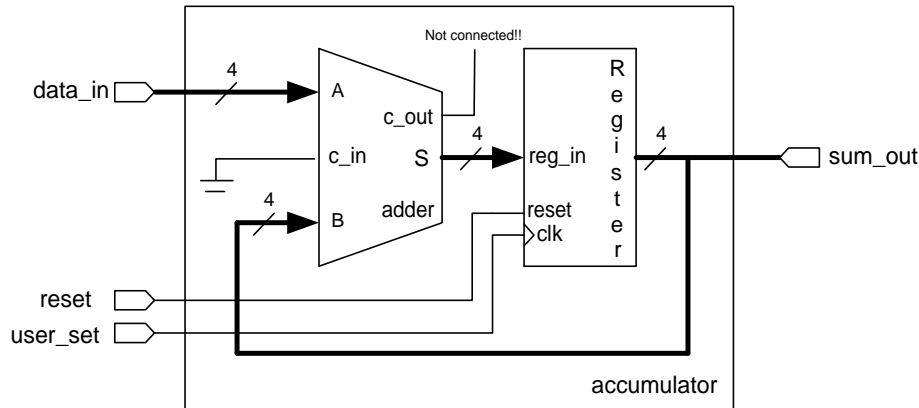

Figure 16; Accumulator block diagram.
2. Analyzing four_bit_reg.vhd description; Open the file four_bit_reg.vhd by double clicking on it under **Sources in Project** window. This file describes the “register” block shown in figure 16. When the input “reset” is high, the output of the block is “0000”. If a raising edge is detected in the input signal “clk”, the block will read its input “reg_in” and write it down on its output signal “sum_out”.
3. Creating a new source file; Following the same procedure as in step 1,2 and 3, go to **Project** → **New Source**, select **VHDL Module** and enter the name “accumulator”. Define the VHDL source as a structural architecture and declare the inputs and outputs of the accumulator following the block diagram in figure 16. Click **Next** → **Finish**. The result will be a new source file where the skeleton is ready for you to fill it out with the description of the circuit.
4. Declaring components; Following block diagram in figure 16, you will need two kind of components; a 4-bit full adder and a 4-bit register (the block that you added to your project through the file *four_bit_register.vhd* . Remember that a component declaration goes between “*architecture structural of accumulator is*” line and the “*begin*” line.
5. Connecting components; Component instantiation (section where you describe the connections between components) goes between the lines “*begin*” and “*end structural*” in the VHDL description of the system. Follow the logic diagram in figure 16 to describe the connections between the components and inputs/outputs of the accumulator.
6. Synthesize the project; Highlight the file accumulator.vhd in the **Sources in Project** window, expand **Implement Design** and double click on **Synthesize** in the **Processes for Source** window. Make sure there are no errors. Note that you will get warnings due to the “no connection” of the signal “c_out” in figure 16.